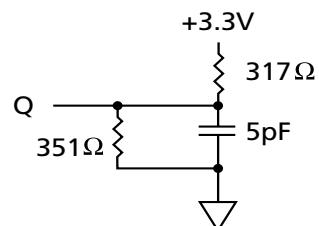

Figure 2
4. The load used for VOH, VOL testing is shown in Figure 2. AC load current is higher than the shown DC values. AC I/O curves are available upon request.
3. This parameter is measured with the output loading shown in Figure 2.